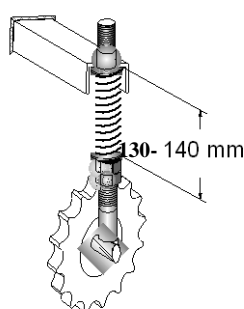

Fig. 37
- After some time, the chains will stretch. This must be regularly checked and the chains must be tightened (see dimensional sketch in figure 37). The  $\frac{3}{4}$ " chains at the pickup are automatically tightened.
- If tightening as in figure 37 is no longer possible, the chain must be shortened. Where half-joints are mounted, these can be removed to achieve shortening. If this is not possible, the entire chain must be replaced. **Always use genuine parts!**